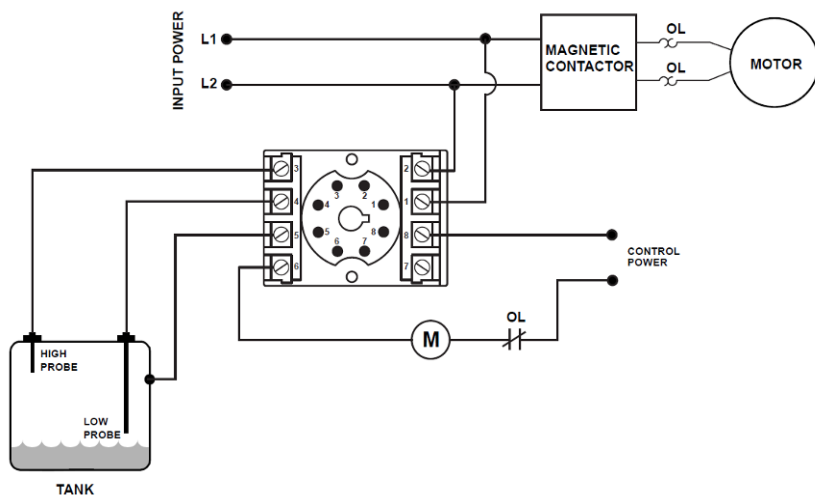

Figure 2: Typical Pump Control Wiring Diagram
3. For pump motor control, connect the normally open contact, socket terminal 6 and common, socket terminal 8, in series with the motor's magnetic contactor coil (M) as shown in Figure 2.